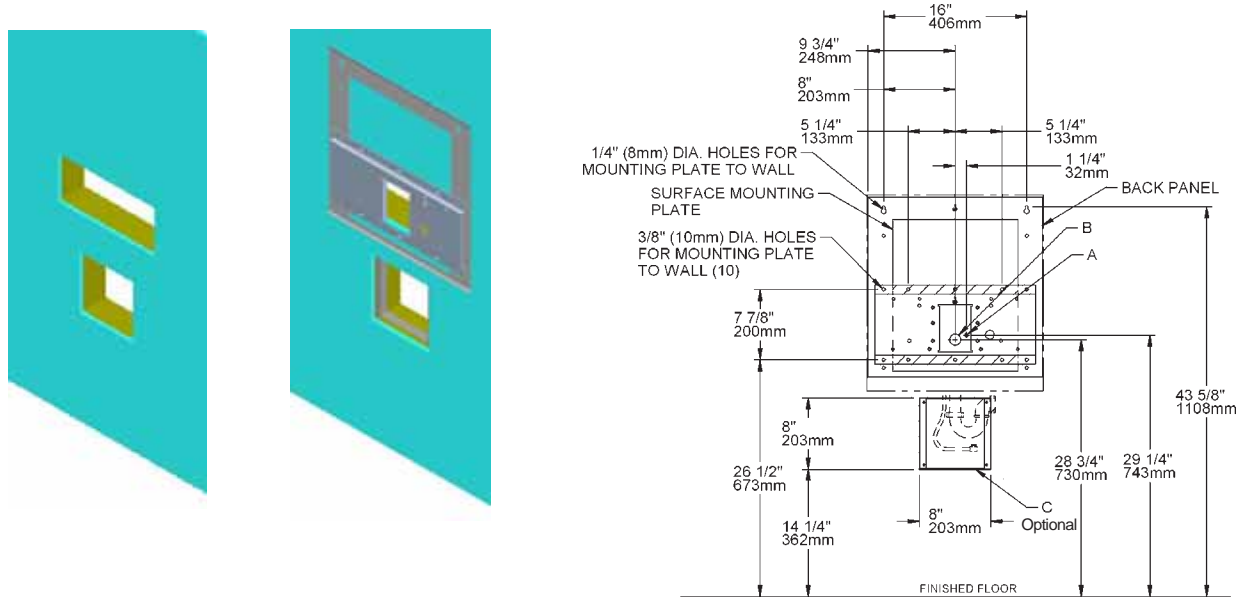

Figure 3 - Rough-in for EDFPBWM114C
1. **Wall** should already be framed for the fountain using the positioning dimensions shown in Figure 3. Shown dimensions pertain to installation location (framing must support up to 300 lbs. weight). These dimensions are required for compliance with ANSI Standard A117.0.
2. **Install** rough-in plumbing as shown in Figure 3. Run supply water inlet line through the back panel. Install a service stop (not provided). Turn on supply water and flush thoroughly.